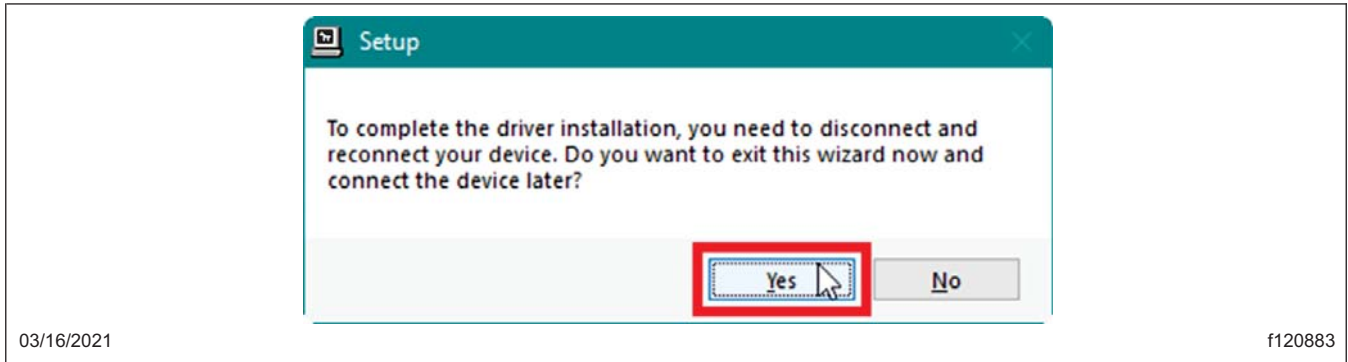

Fig. 23, Completing the Driver Installation Setup
7.17 When the 'Setup' dialog box appears, select 'Yes.' See Fig. 23.